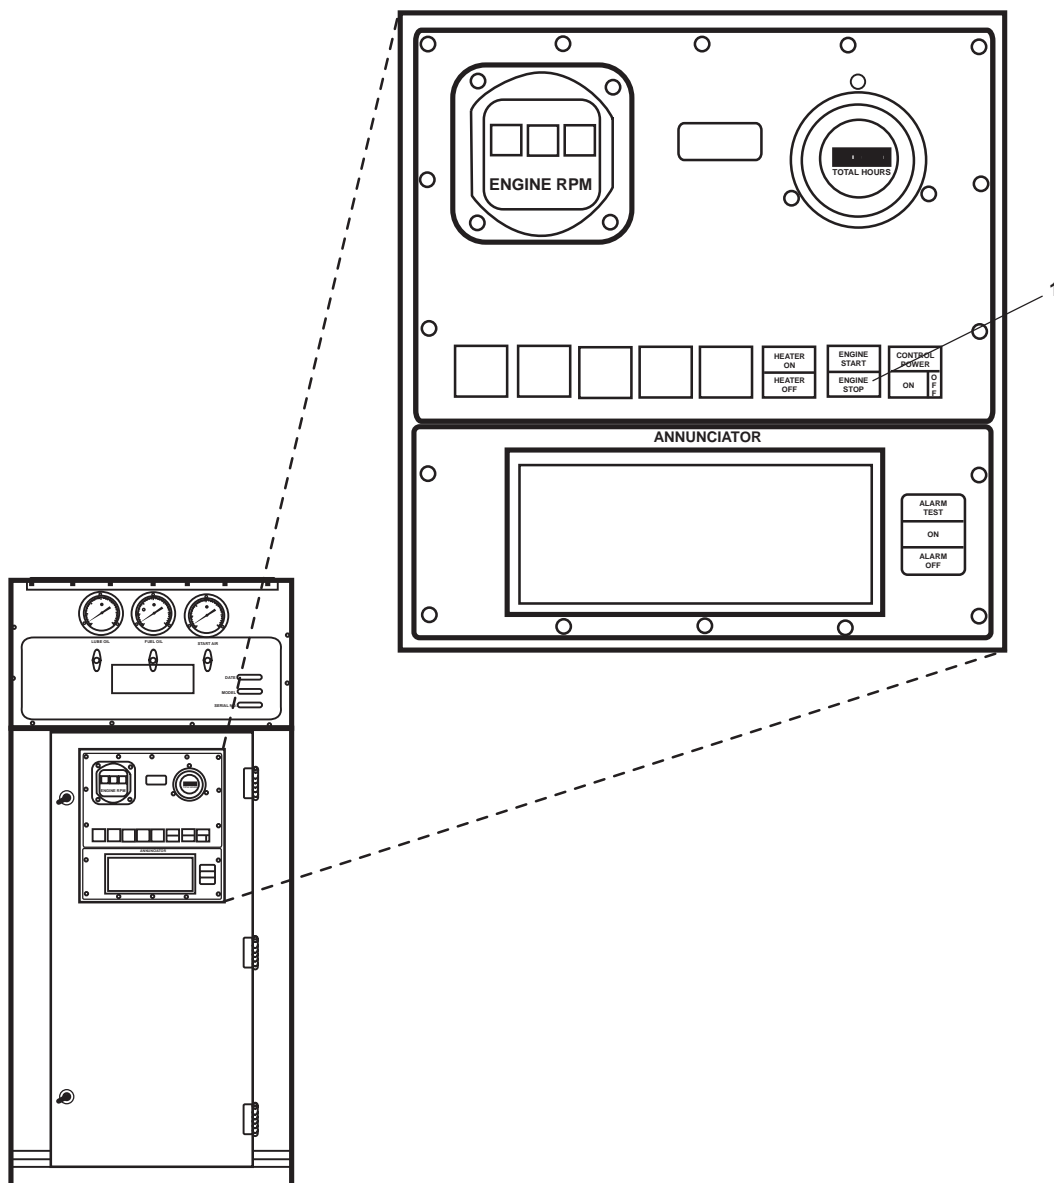

Figure 2. Main Engine Control Panel
- At the starboard main engine control panel, STOP the starboard main engine by pressing the ENGINE STOP pushbutton (figure 2, item 1).